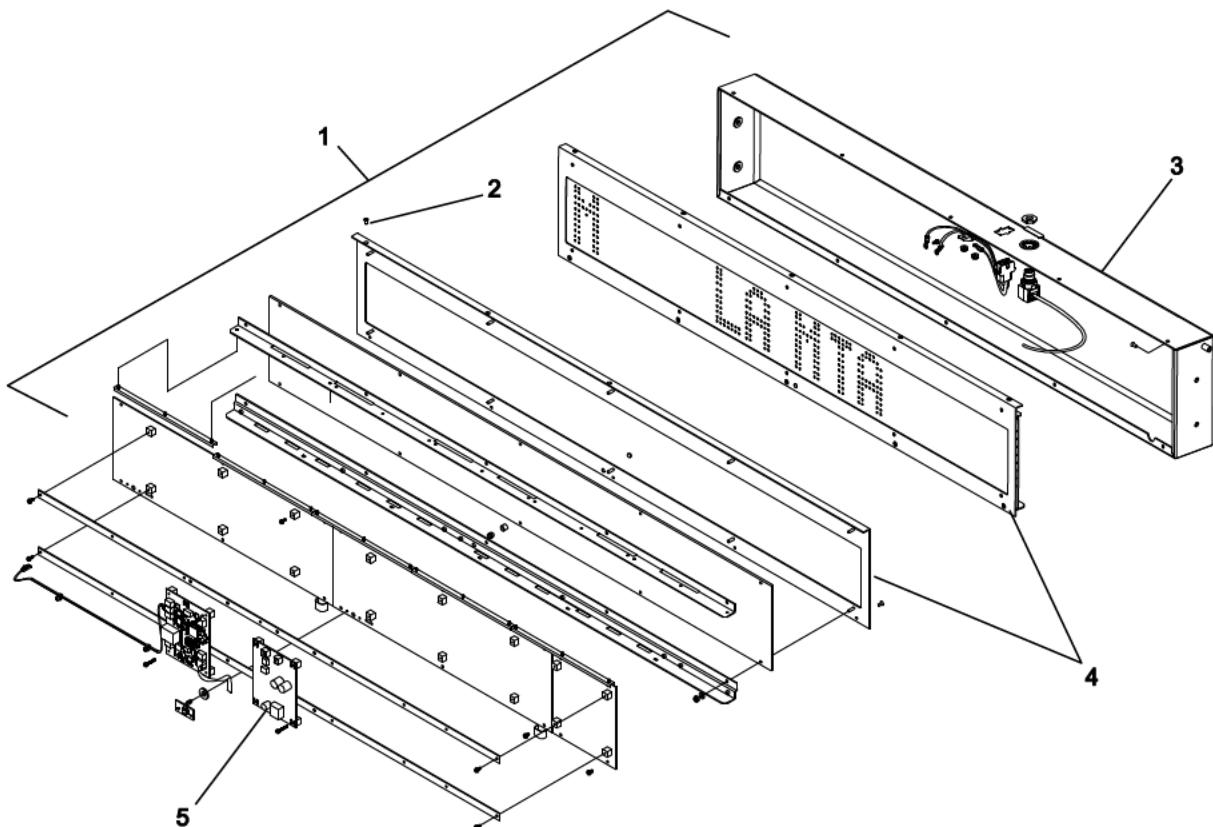

Figure 8-23: Replace Side Destination Sign Power Supply PCB
1. Remove side destination sign assembly (1, Figure 8-23) from its mounted location.
2. Remove ten 6-32 x 5/16 FH Phillips screws (2) that secure the housing assembly (3) to front panel assembly (4).
3. Carefully separate the housing assembly (3) from front panel assembly (4) to access electrical wiring and harnesses.
4. Tag and disconnect electrical wiring connectors from the power supply PCB (5).
5. Remove power supply PCB (5).
6. Install replacement power supply PCB (5) with J1 and J2 connectors upwards.
7. Connect electrical wiring connectors to the power supply PCB (5).
8. Install the housing assembly (3) to the front panel assembly (4) using ten 6-32 x 5/16 FH Phillips screws (2).